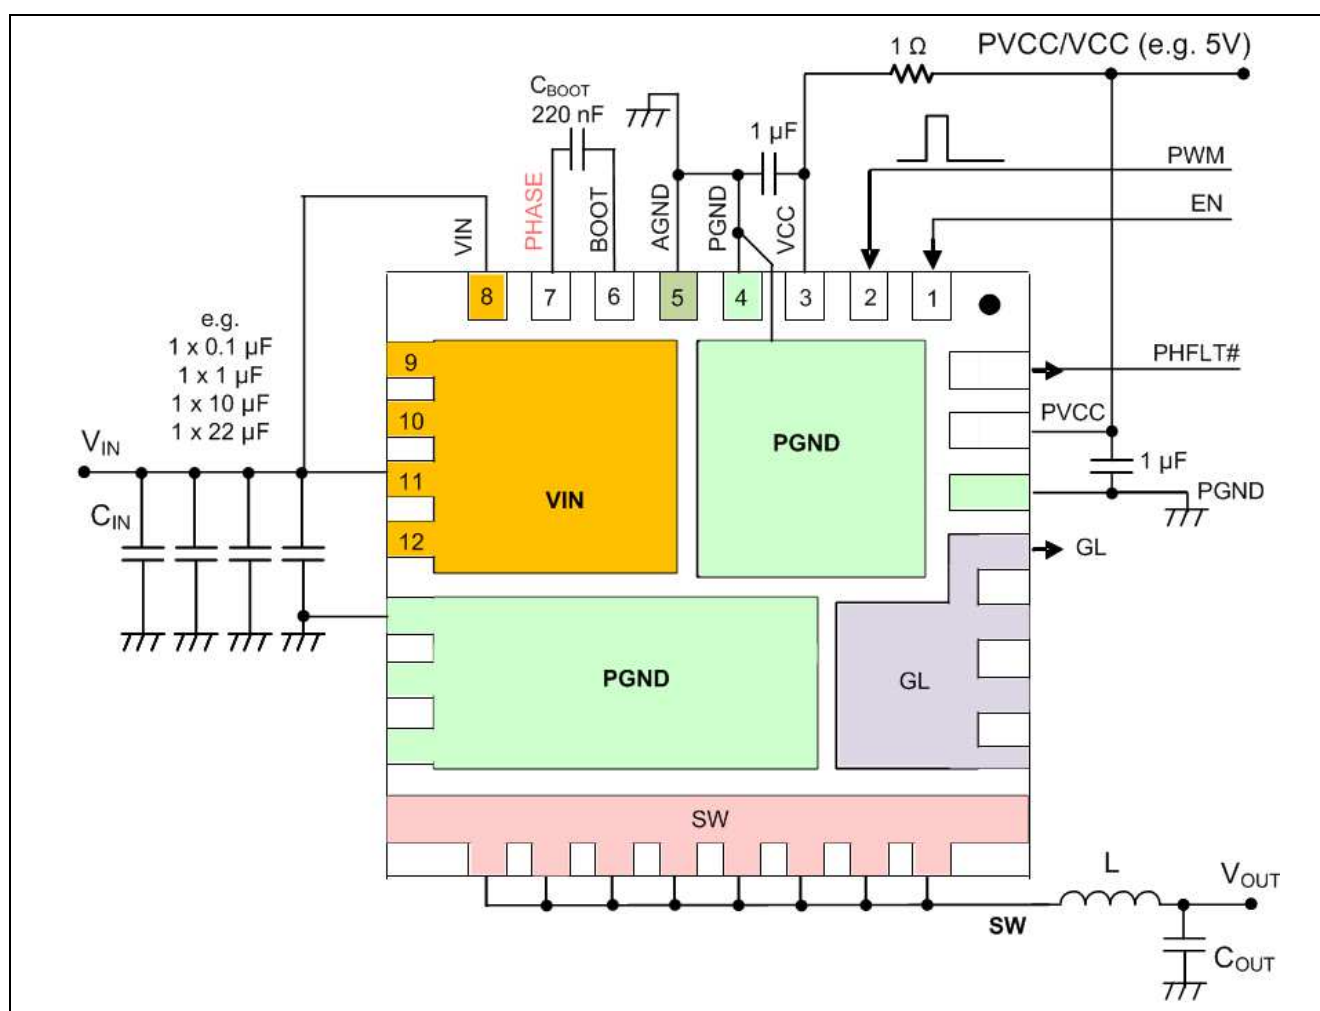

Figure 6 Pin Interconnection Outline (example, transparent top view)
³ In telecom applications the recommended maximum voltage for V_{IN} is 13.2V unless a boot resistor is used (in series with C_{BOOT} in Figure 6) to limit the voltage spike $V_{PHASE}-V_{PGND}$ (AC) to 26V.